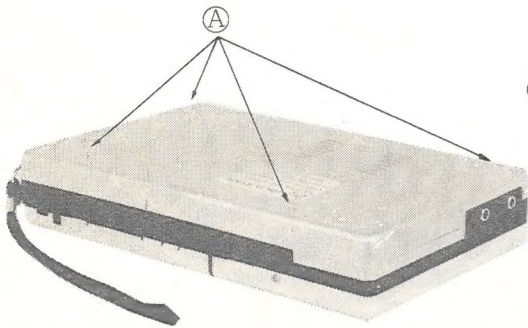

Fig. 2
Remove 4 screws (A) (See Fig. 2)